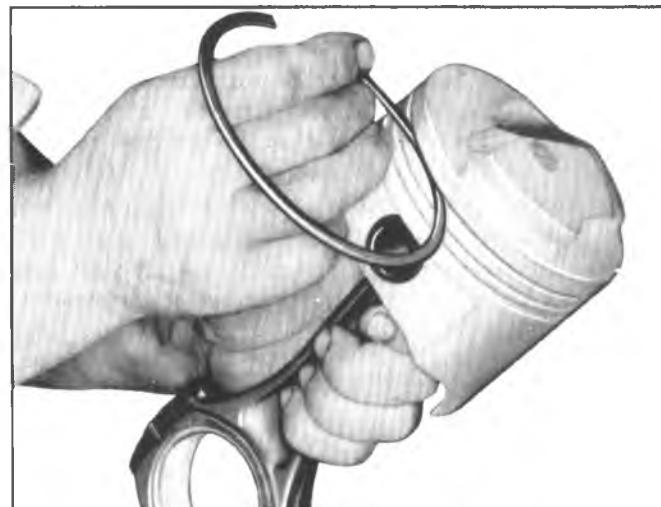

Fig. 6A4-55--Checking Ring in Groove
3. Using piston pin installer, J-24086-9, press the piston pin into the piston and connecting rod (fig. 6A4-53).